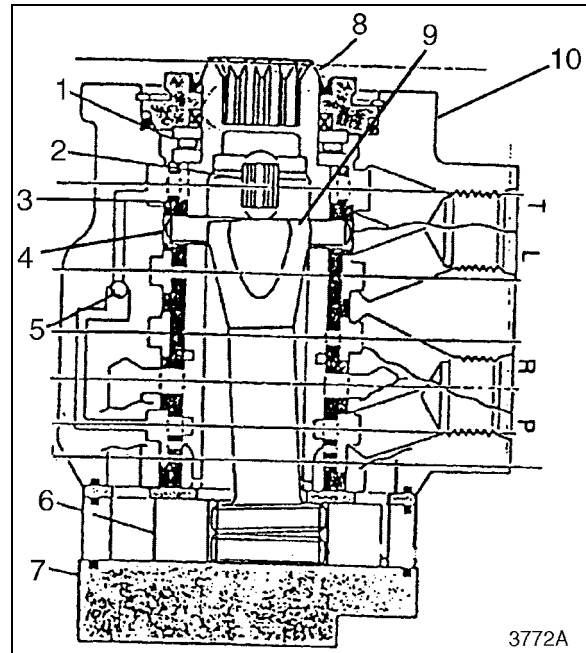
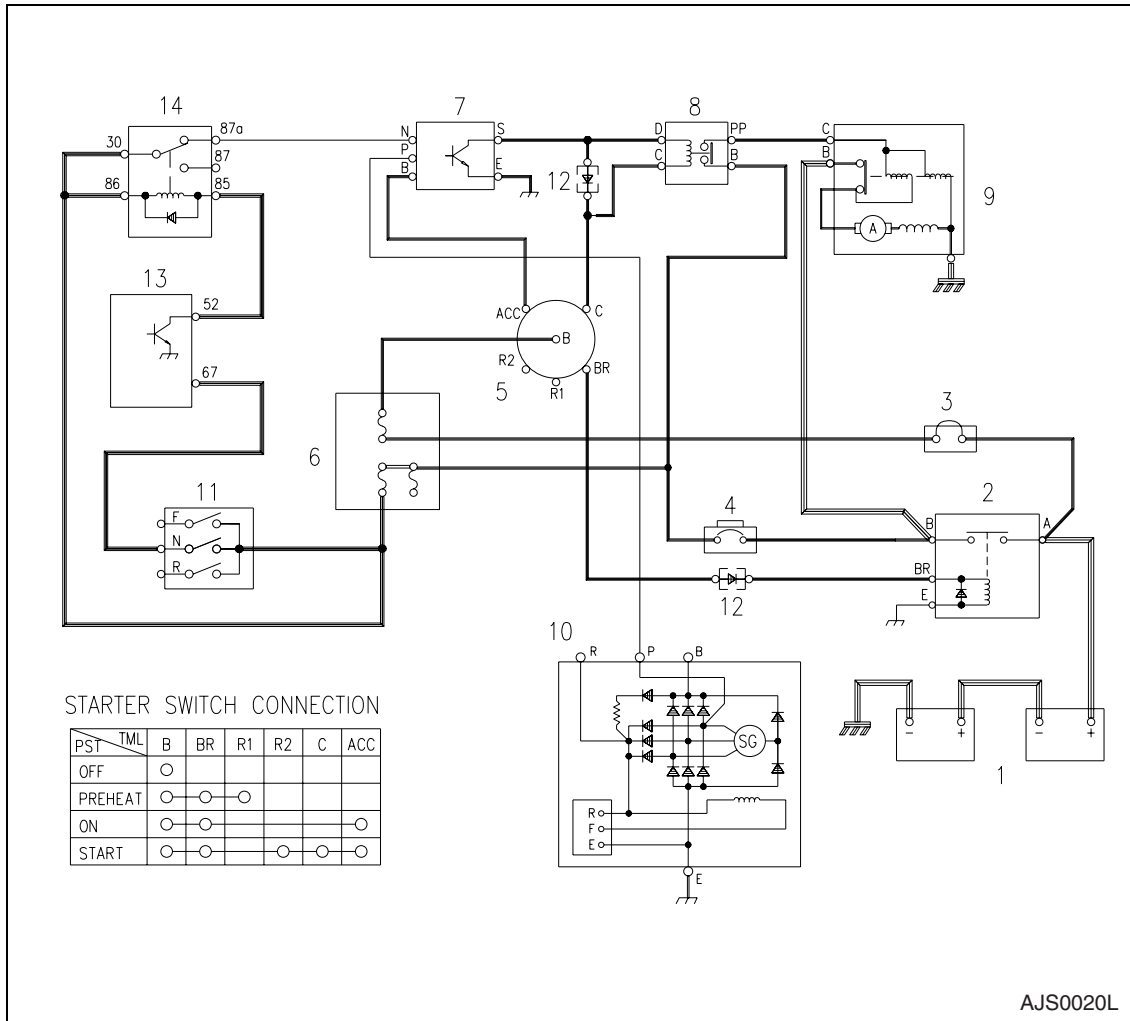

Figure 1
Figure 2 STARTER CIRCUIT (1) - WHILE STARTING
The machine contains a fully hydraulic steering unit. See Figure 1. Rotating the steering wheel controls hydraulic flow through the steering valve. Figure 2, shows the hydraulic schematic for the steering system. The steering valve meters the volume of pump flow that is supplied to the steering cylinders
The shaft that is rotated by the steering wheel is attached to the spool (8, Figure 1) by the engagement of a spline. The spool is surrounded by a sleeve (3). The spool and sleeve are connected by the centering spring (2). At the steering wheel neutral position, the center pin does not contact the spool. A drive shaft (9) extends through the spool. The upper end of the drive shaft engages the center pin (4). The lower end of the drive shaft engages the spline in the gerotor (6).